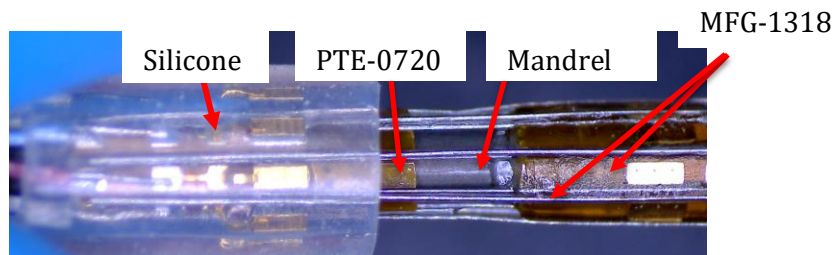

Figure 6: Loading transducer subassemblies onto octagon
- 7.4.3 While holding the silicone tubing in place over the spoke, pull the proximal end of each micro-coax cable as necessary to align the transducer subassemblies approximately in the same axial position on the spoke. Slide all 8 transducer subassemblies over the octagon by pulling the silicone tubing towards the octagon and away from the spoke. Adjust the transducer subassemblies as needed once all 8 are loaded on the octagon so that the transducer subassemblies are fully supported by the octagon underneath and that the transducers are aligned in the same axial position (see Figure 6). Use MFG-1318 as necessary to aid in alignment.